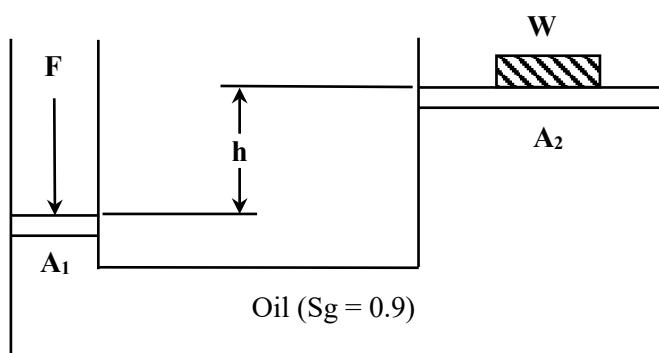

Figure 2(b) / Rajah 2(b)
- CLO2 (b) A hydraulic jack lifts a load of 16.3 kN with the force of 1320 N applied to the small cylinder as shown in Figure 2(b). The area of large cylinder is 91 cm^2 .